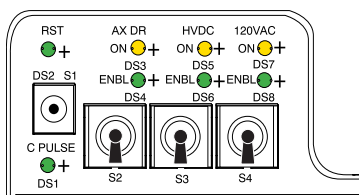

Figure A-3 STC Power Switches
CAUTION Before you remove top covers, always make sure the three (3) power switches have been turned off. (See Figure A-3.)
- 2.) Remove gantry side and top covers, if you have not already done so. See Section 1.0 on page 97. Make sure that the three (3) power switches have been turned off. See Figure A-3.